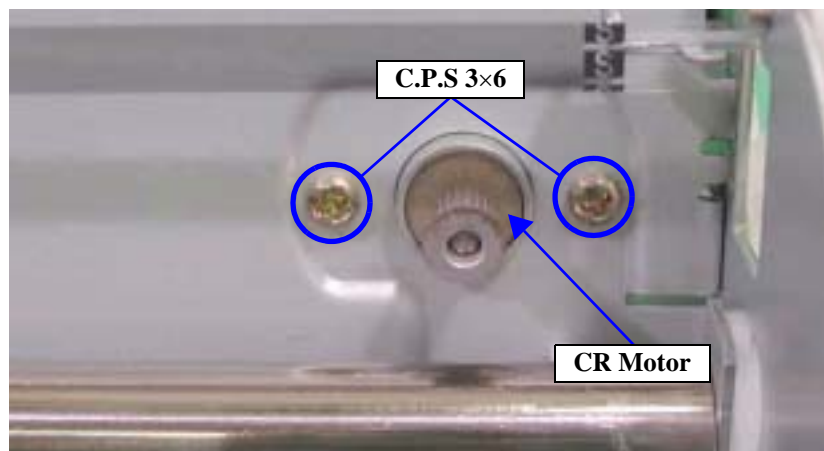

Figure 4-107. Removing the CR Motor
- After installing the CR Motor, fully use care not to damage the tooth surface of the Pinion Gear. Refer to Figure 4-107, "Removing the CR Motor".